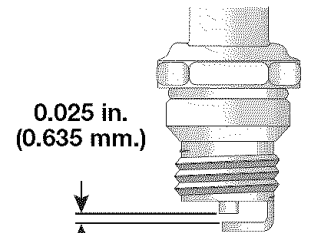

Fig. 26
4. Replace cracked, fouled or dirty spark plug. Set the air gap at 0.025 in. (0.635 mm.) using a feeler gauge (Fig. 26).